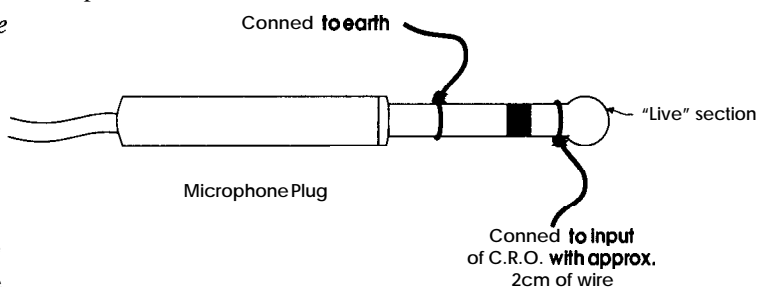

figure 1
- In order to connect a microphone directly to the Y-INPUT terminals, wrap a short piece of wire around the 'live' end of the microphone plug and connect it to the upper, positive terminal of the CRO. Connect a second piece of wire from the external casing of the plug to the earth input terminal of the CRO (see figure 1).